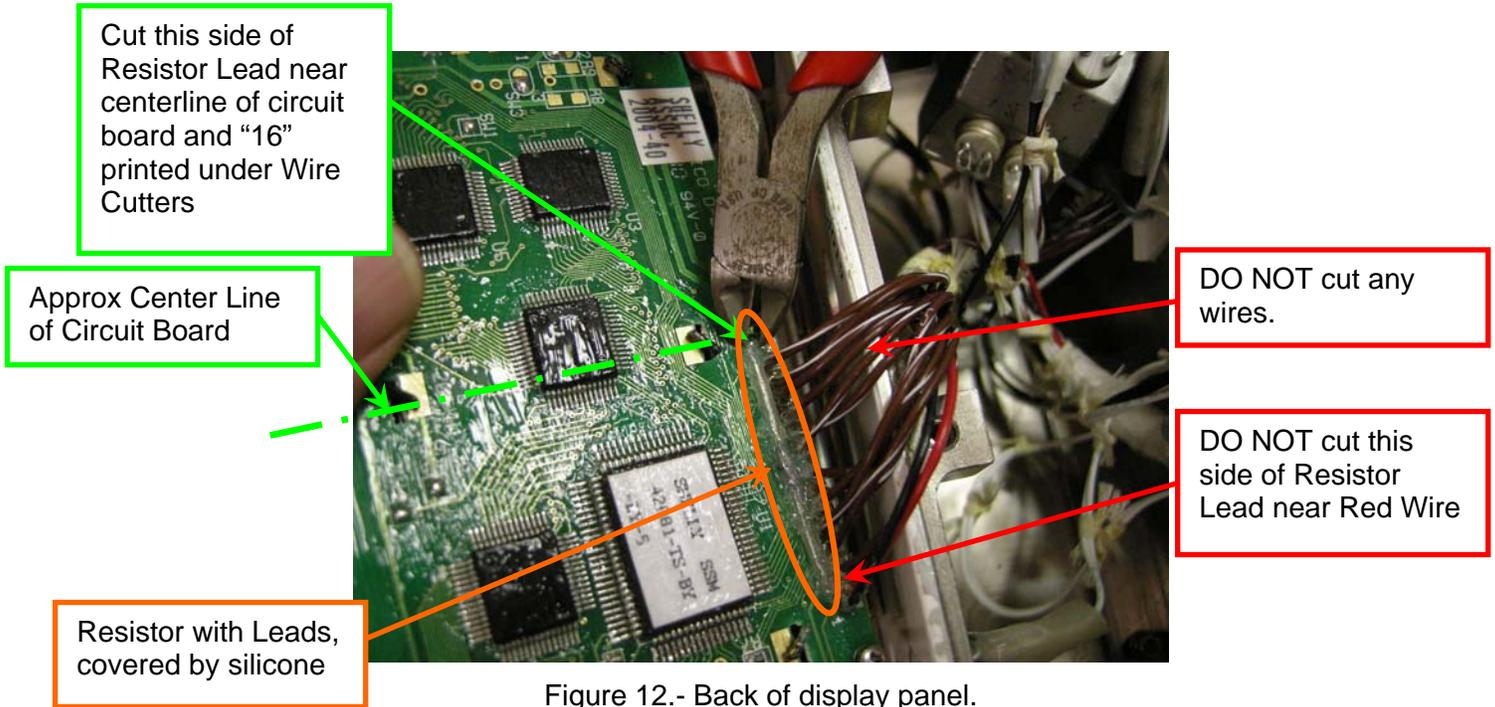

Figure 12.- Back of display panel.
- 4.1 Cut resistor lead (silver-colored, silicone coated conductor) near centerline of display and as parallel to plane of board as possible (Nearest the number "16" on the printed circuit board, opposite side of the red wire). [Wire Cutters, Magnifying Glass (7X)] Refer to Figure 12.